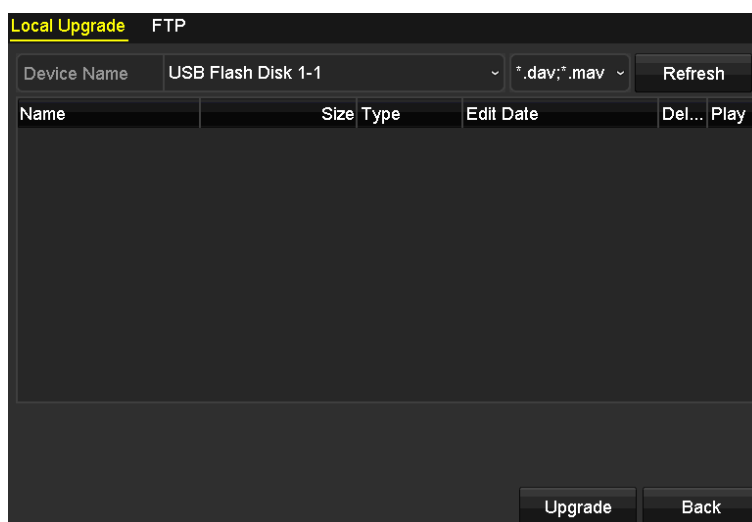

Figure 14. 8 Local Upgrade Interface
2. Click the **Local Upgrade** tab to enter the local upgrade menu, as shown in Figure 14. 8.